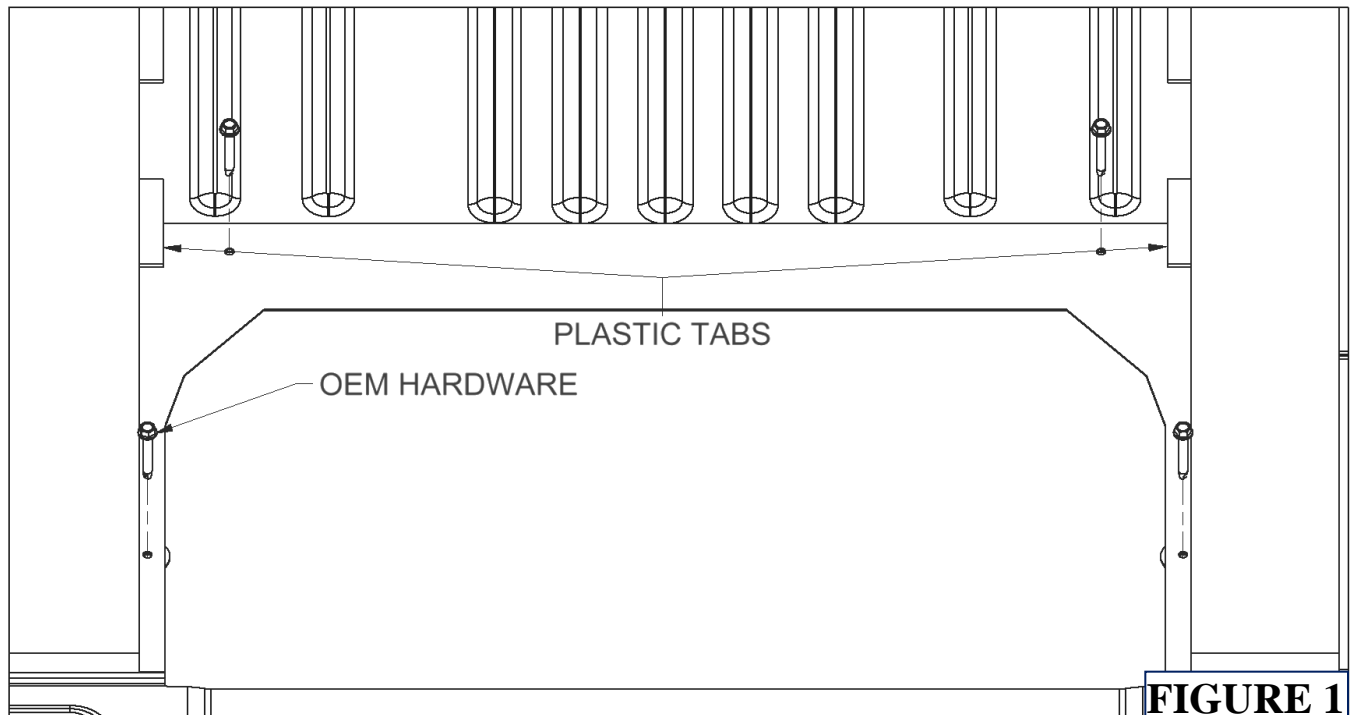

FIGURE 1
3. Remove the (4) OEM hex head bolts around the plastic cubby and set inside the cubby for later use. **FIGURE 1**